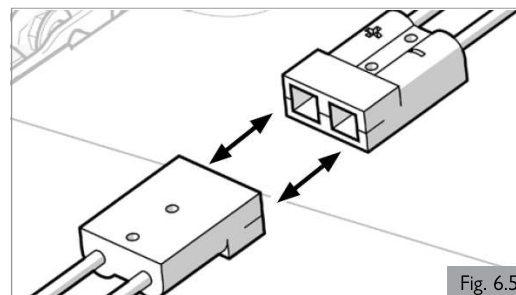

Fig. 6.5
6. Disconnect the 2 pin Anderson connectors from each battery (Fig.6.5).